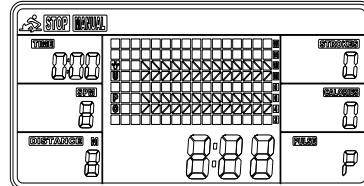

Fig. 4
(1) MANUAL (Fig. 4): There are 2 options in MANUAL mode.